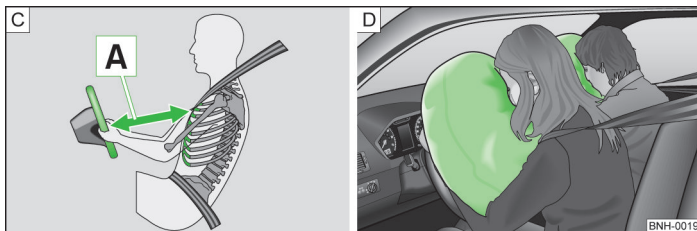

Fig. 165 Safe distance to steering wheel/inflated airbags
When the airbags are deployed, they inflate in front of the driver and front passenger » Fig. 165 - B. The forward movement of the driver and of the front passenger is cushioned when they make contact with the fully inflated airbag and the risk of injury to head and chest is thus reduced.
- It is important that the driver and front passenger maintain a distance of at least 25 cm to the steering wheel or dashboard A » Fig. 165. Not maintaining this minimum distance will mean that the airbag system will not be able to properly protect you – hazard! The front seats and the head restraints must always also be correctly adjusted to match the body size of the occupant.